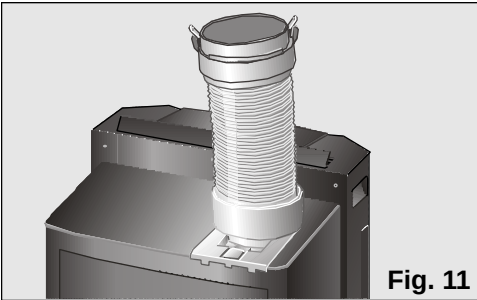

Fig. 11
- ☐ Remove the diffusion duct and set the air expulsion tube to the position shown in **fig. 11**.